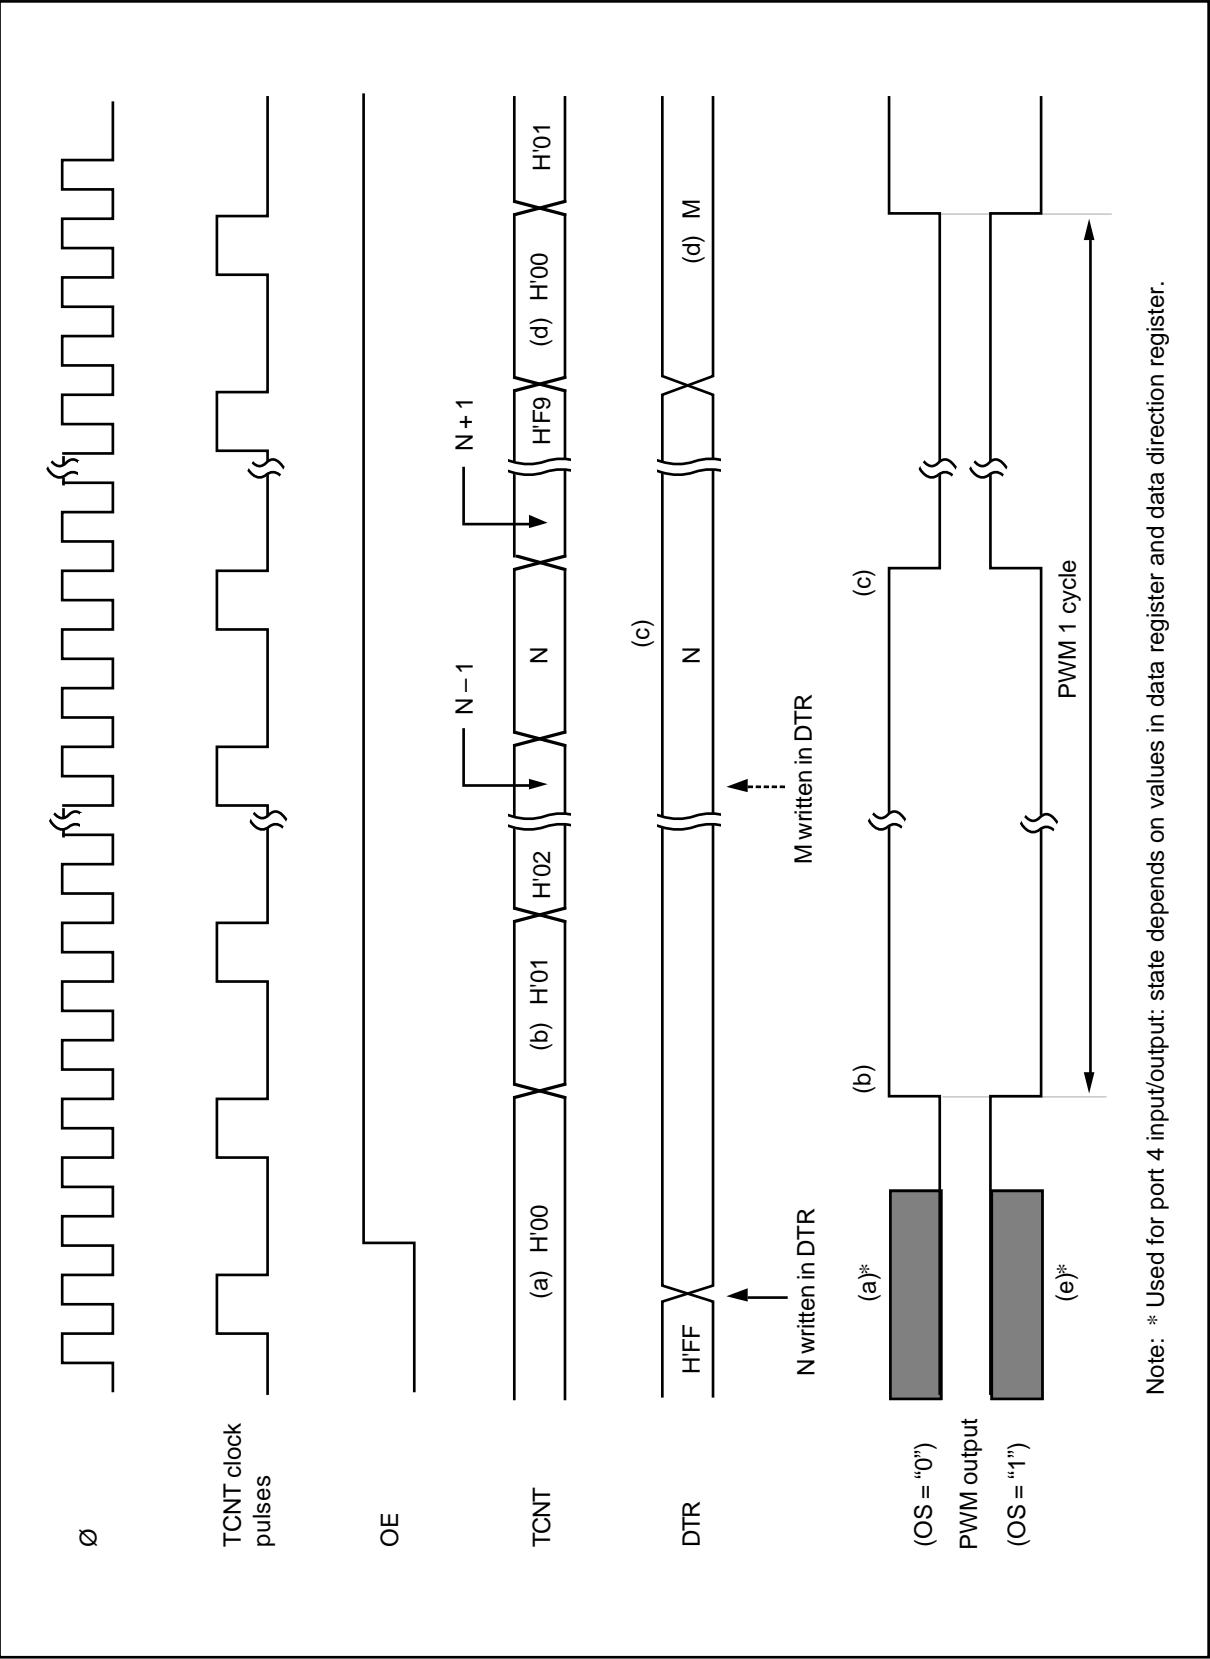

Figure 8-3. PWM Timing
Figure 8-3 is a timing chart of the PWM operation.
(1) Positive Logic (OS = “0”)
① **When (OE = “0”) – (a) in Figure 8-3:** The timer count is held at H'00 and PWM output is inhibited. [Pin 46 (for PW0) or pin 47 (for PW1) is used for port 4 input/output, and its state depends on the corresponding port 4 data register and data direction register.] Any value (such as N in figure 8-3) written in the DTR becomes valid immediately.
② When (OE = “1”)
- i) The timer counter begins incrementing. The PWM output goes High when TCNT changes from H'00 to H'01, unless DTR = H'00. [(b) in figure 8-3]
- ii) When the count passes the DTR value, the PWM output goes Low. [(c) in figure 8-3]
- iii) If the DTR value is changed (by writing the data “M” in figure 8-3), the new value becomes valid after the timer count changes from H'F9 to H'00. [(d) in figure 8-3]
(2) Negative Logic (OS = “1”) – (e) in Figure 8-3: The operation is the same except that High and Low are reversed in the PWM output. [(e) in figure 8-3]